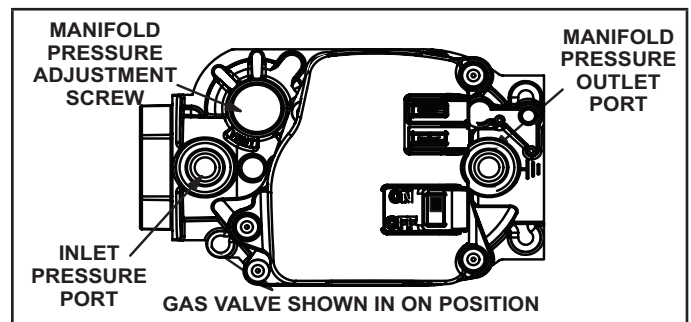

FIGURE 55
#### Gas Valve Operation (FIGURE 55)
- 6 - Move gas valve switch to OFF. See FIGURE 55.
- 8 - Move gas valve switch to ON. See FIGURE 55.